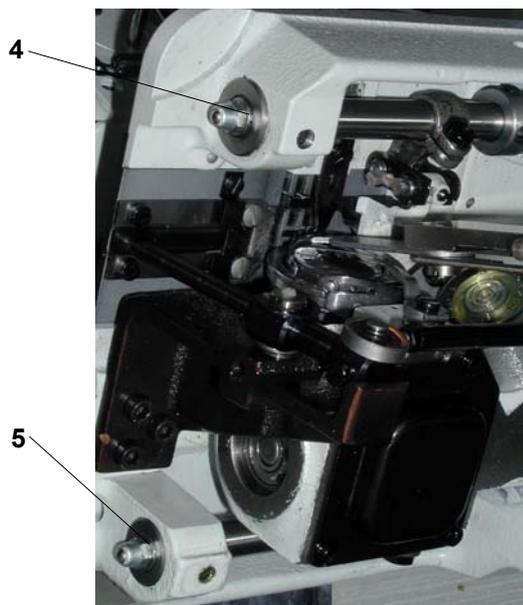

Fig. 11
7.2 Lubrication (Fig. 11, 12, 13)